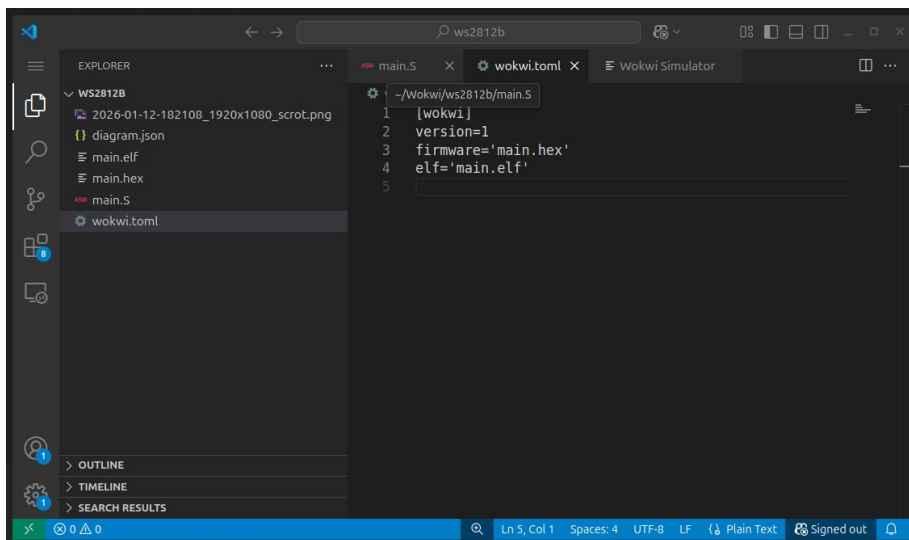

Figure 5: The contents of the wokwi.toml file
- **Figure 5** shows the Wokwi Simulator running in the VS Code IDE during the simulation process, and **Figure 6** shows the contents of the wokwi.toml file.